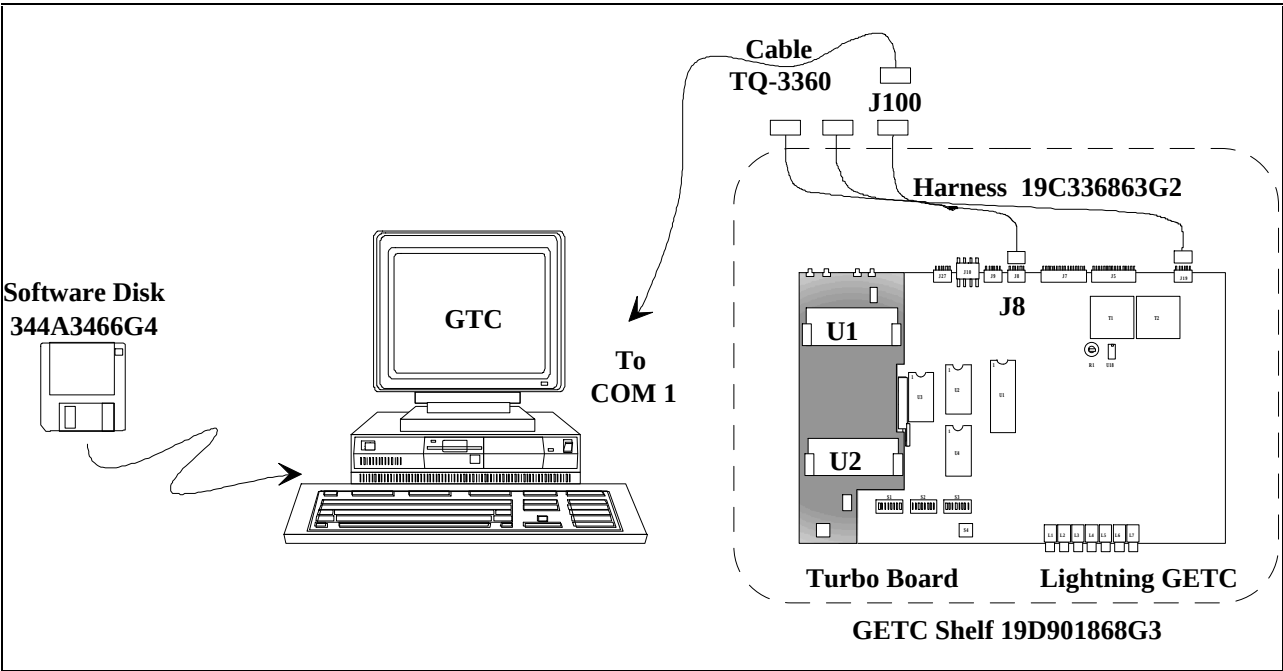

Figure 7 - Personality Programming
- 1. Connect the TQ-3360 programming cable from the PC's serial port connector (COM1/COM2) to the GETC Shelf connector J100 (see Figure 7). (A DB-25 to DB-9 adapter may be needed.)